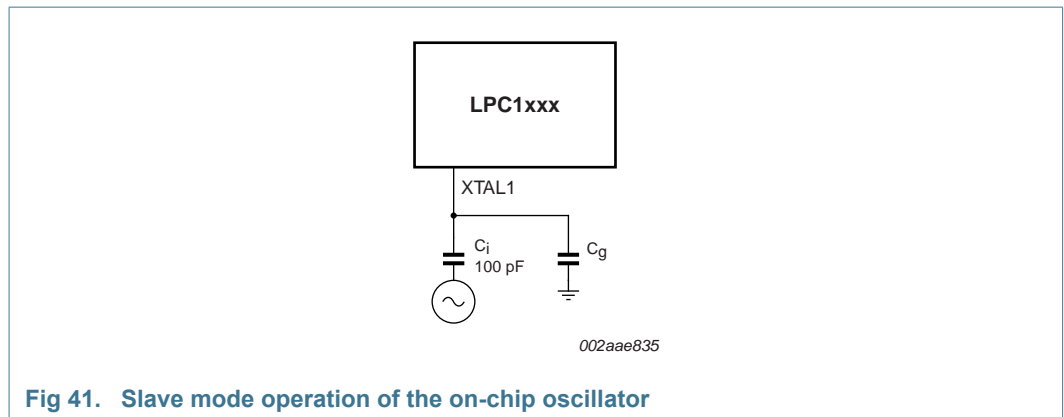

Fig 41. Slave mode operation of the on-chip oscillator
- In slave mode, couple the input clock signal with a capacitor of 100 pF ( $C_C$  in Figure 41), with an amplitude of at least 200 mV (RMS). The XTAL2 pin in this configuration can be left unconnected.
An external clock can be connected to RTCX1 if RTCX2 is left open. The recommended amplitude of the clock signal is  $V_{i(RMS)} = 100$  mV to 200 mV with a coupling capacitance of 5 pF to 10 pF.  $V_{i(RMS)}$  must be lower than 450 mV. See Figure 41 for a similar slave-mode set-up that uses the crystal oscillator.